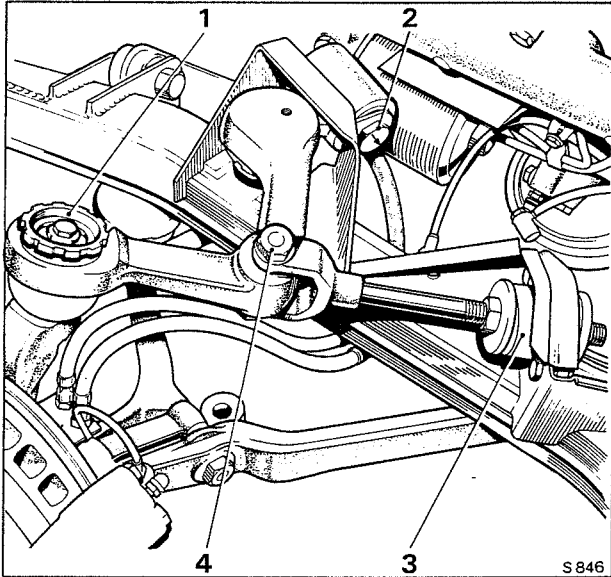

Fig. H15 Upper levers assembly (damper dismantled)
5. Note the position of the arrow on the compliance lever pivot bolt (see Fig. H15). Remove the bolt and withdraw the lever from the sub-frame bracket. Collect the special washers.